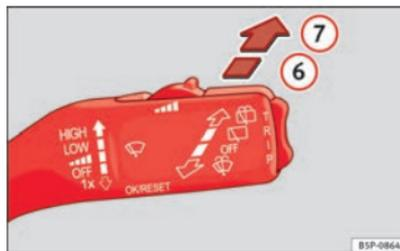

Fig. 82 Windscreen wiper lever: window wiper.
- Press the lever forwards to position ⑥ ⇒ Fig. 82. The wiper will wipe the window approximately every 6 seconds.
- Press the lever fully forwards to position ⑦ ⇒ Fig. 82. The wash function will start immediately and the wiper will start with a slight delay. The windscreen wash system will function as long as you hold the lever in this position.